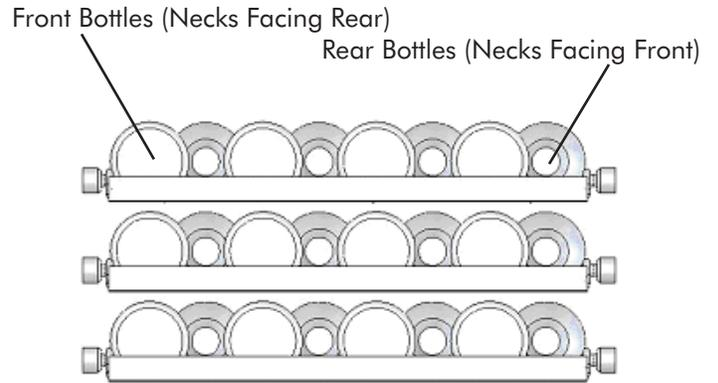

Figure 7
The four (4) pull-out shelves each hold eight (8) bottles. See Figure 7 for typical wine bottle spacing. Tall bottles should not be loaded on the bottom rack because they may prevent the door from closing. The display shelf at the top of the cabinet holds seven bottles. Also, there is a fixed, wooden, bottle cradle in the bottom, step section of the cabinet. Six (6) bottles of wine may be stored there.